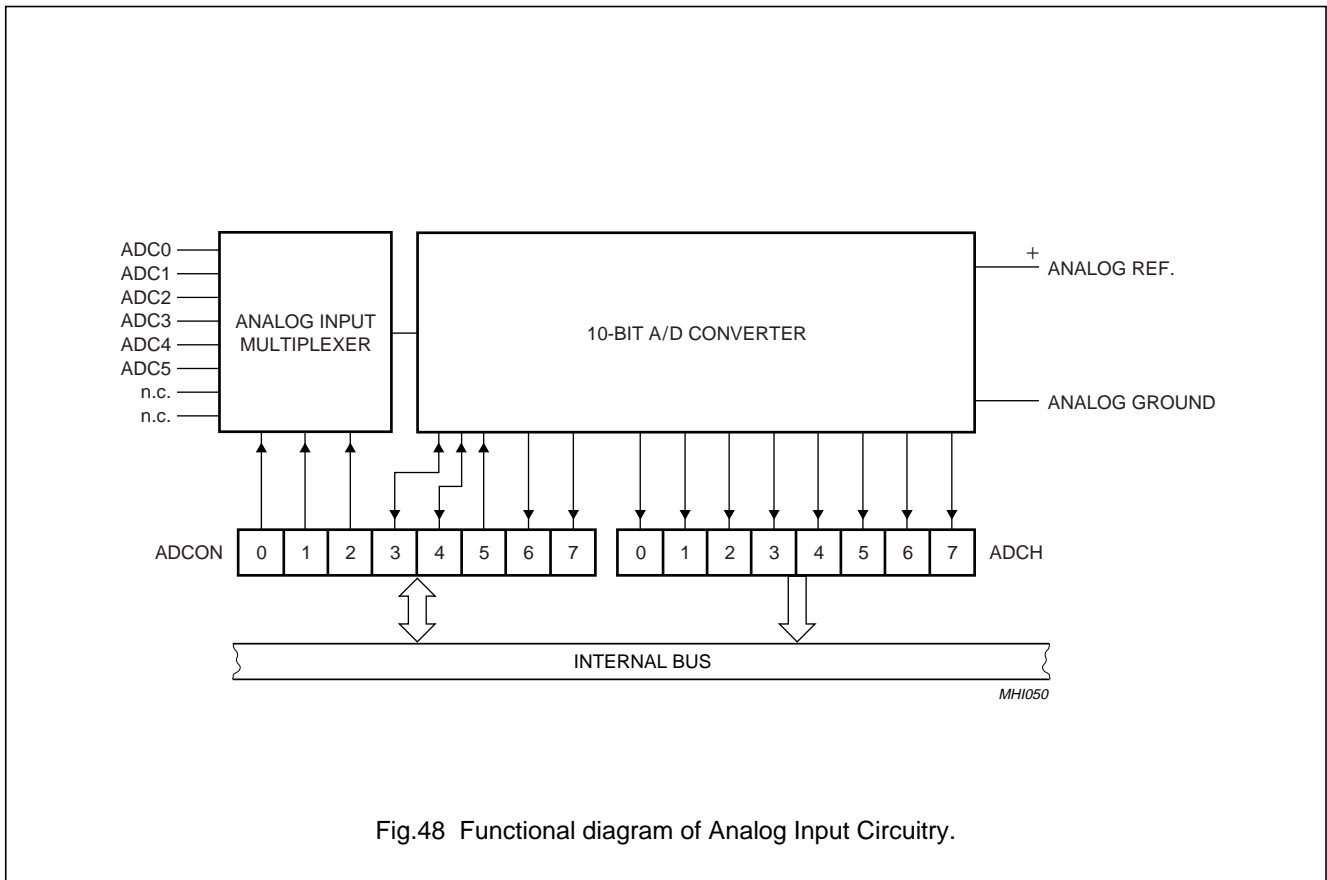

Fig.48 Functional diagram of Analog Input Circuitry.
The analog input circuitry consists of an 6-input analog multiplexer and a 10-bit, straight binary, successive approximation ADC. The A/D can also be operated in 8-bit mode with faster conversion times by setting bit ADC8 (AUXR1.7). The 8-bit result will be contained in the ADCH register. The analog reference voltage and analog power supplies are connected via separate input pins. For 10-bit accuracy, the conversion takes 50 machine cycles, i.e., 18.75 μ s at an oscillator frequency of 16 MHz. For the 8-bit mode, the conversion takes 24 machine cycles. Input voltage swing is from 0 V to +5 V. Because the internal DAC employs a ratiometric potentiometer, there are no discontinuities in the converter characteristic. Figure 48 shows a functional diagram of the analog input circuitry.
Figure 48 shows the elements of a successive approximation (SA) ADC. The ADC contains a DAC which converts a successive approximation register to a voltage (VDAC) which is compared to the analog input voltage (V_{IN}). The output of the comparator is fed to the successive approximation control logic which controls the successive approximation register. A conversion is initiated by setting ADCS in ADCON register. ADCS can be set by software only.
otherwise the bit being tested is cleared. This process is repeated until all ten bits have been tested, at which stage the result of the conversion is held in the successive approximation register. Figure 48 shows a conversion flow chart. The bit pointer identifies the bit under test. The conversion takes four machine cycles per bit.
Figure 48 shows how the ADC is realized. The ADC has its own analog ground (AV_{SS}) and a positive analog reference pin (V_{ref+}) connected to each end of the DAC's resistance-ladder. The ladder has 1023 equally spaced taps, separated by a resistance of "R". The first tap is located 0.5 x R above AV_{SS}, and the last tap is located 1.5 x R below V_{ref+}. This gives a total ladder resistance of 1024 x R. This structure ensures that the DAC is monotonic and results in a symmetrical quantization error is shown in Figure 48.